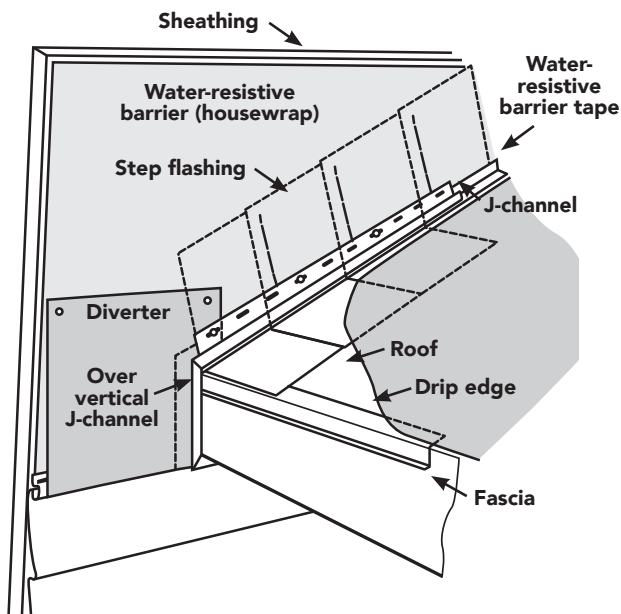

Figure 42
- Extend the J-channel past the edge of the roof in order to ensure proper runoff. A diverter can be used; see Figures 42 and 43.
- Cut a diverter from aluminum trim sheet, making sure it sits on the nail hem of the last full course (Figure 42). Make sure the diverter is placed inside the receiving pocket of the vertical J-channel and is tucked behind the nail hem of the J-channel following the roofline for best drainage.